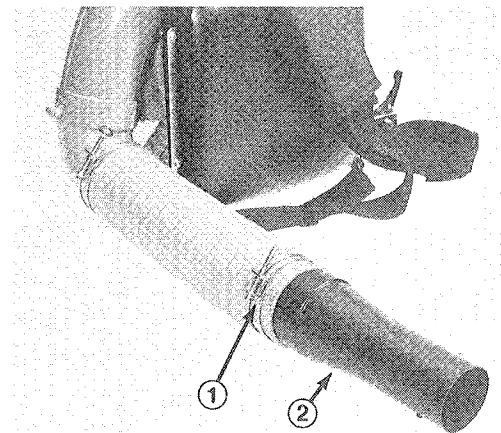

Figure 2
3. Install swivel end of straight pipe w/swivel into flexible pipe (Fig. 2).
4. Make sure swivel end is fully inserted into flexible pipe and tighten thumbscrew on clamp assembly (Fig. 2).